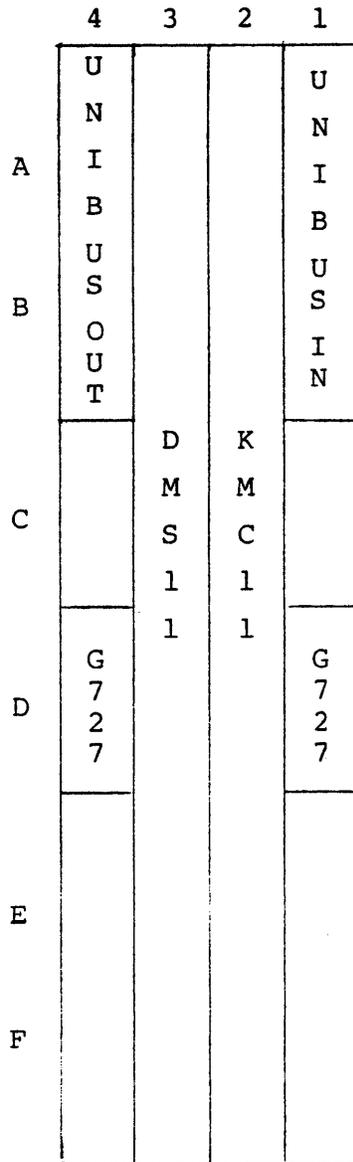

Figure 2-3 Four-slot System Unit
4. Install the KMC11 in the system unit. Refer to Figure 2-3 for the four-slot system unit; Figure 2-4 for nine-slot system unit. Ensure that the NPR Grant Continuity Wire between pins CA1 and CB1 is removed for the slot in which KMC11 is installed.
3. Mount the module in the appropriate slot of the system unit (Figure 2-3 for four-slot system unit; Figure 2-4 for nine-slot system unit). Care should be taken when installing the DMS11 to avoid snagging the cables on the back of the KMC11 module.